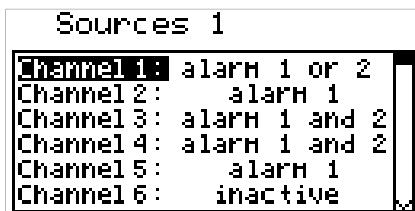

Fig. 7.25. Submenu **"Source"** in menu **„Outputs settings"**.
**"Source"** - brings up a submenu with alarm sources settings (**Fig. 7.25**). The following options are available for each channel: